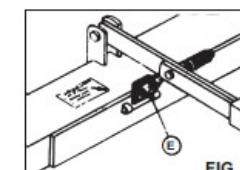

FIG. 3
- 4) PRIMA DI SGANCIARE LA MACCHINA RUOTARE IL FERMO VERSO L'ALTO (FIG. 3).
- 4) ANTES DE DESENGANCHAR LA MÁQUINA, GÍRENLO HACIA ARRIBA (FIG. 3).
- 4) BEFORE DISCONNECTING UNIT TURN RELEASE SUPPORT UPWARDS (FIG. 3).
- 4) AVANT DE DECRONCHER LA MACHINE, LE TOURNER VERS LE HAUT (FIG. 3).